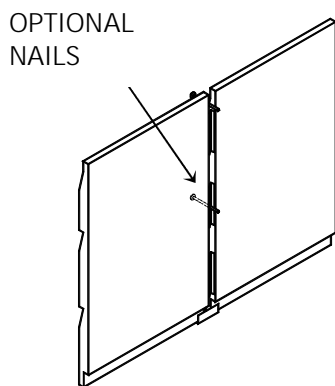

Figure 3
3. Optionally, additional nails may be added in the mid to lower portion of the cover. Nail size and placement should be as per above. See Figure 3.